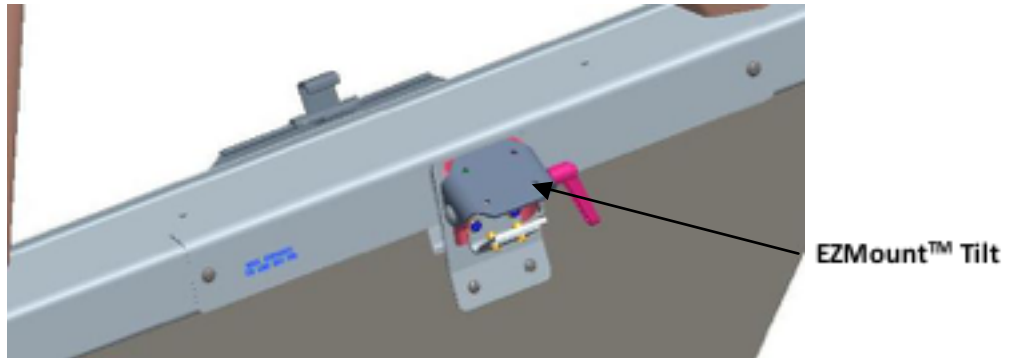

FIGURE 2 - CAPTAIN SIDE WINDOW MODIFIED WITH EZMOUNT™ TILT
- » The EZMount™ Tilt is attached to the mounting bracket (see Figure 2).